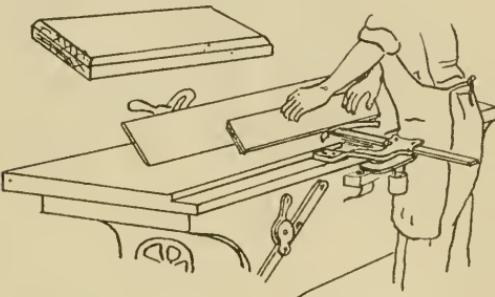

FIG 8—CUTTING A CHAMFER
12. Chamfering-- The jointer may be used for chamfering as illustrated in Fig. 8, by tilting the fence so as to cut the desired angle. Remember that the rule learned in hand planing, to plane the end grain first still holds good.
3. Use a wooden mitten or specially improvised stick (Fig. 8) of some kind in pushing flat and narrow pieces over the revolving cylinder.